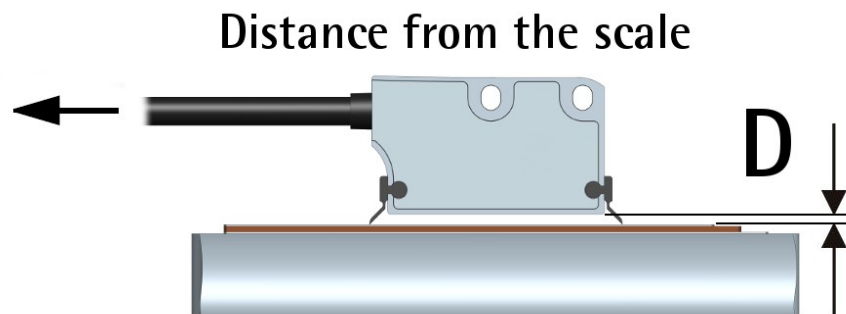
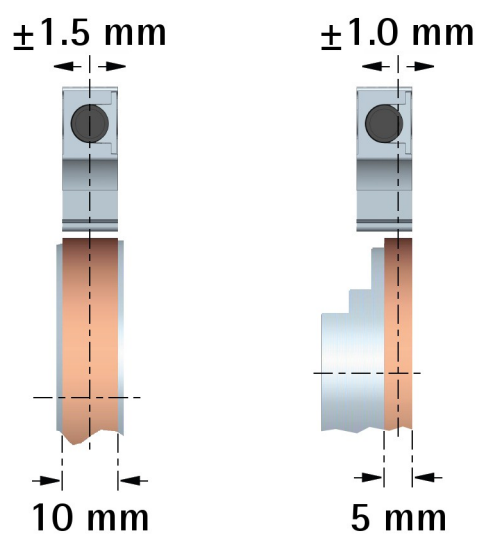
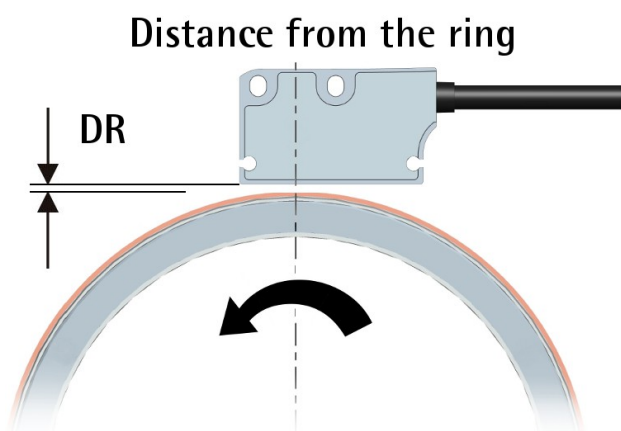

Figure 1 - Encoder / tape mounting gap
Figure 4 - Sensor / ring alignment
Figure 5 - Sensor / ring mounting gap
You can mount the readhead in both directions over the tape. The arrow in Figure 1 indicates the **standard counting direction** (the rising edge of A signal leads the rising edge of B signal) when the sensor moves in the direction indicated by the arrow; further information in the "4.7 Counting direction" section on page 24.
**The distance D (see Figure 1) between the bottom of the encoder and the MTI magnetic scale must be as follows:**
When the sensor is installed on magnetic rings having a 10 mm / 0.4" wide magnetic surface, line up both the sensor and the ring on the central axis. When magnetic rings having a 5 mm / 0.2" wide magnetic surface are used, line up the sensor and the ring as shown in Figure 4; please consider that the incremental sensor is located laterally in the sensing head. With 5 mm rings the mounting direction of the ring makes no difference (but ascertain that the sensor is properly aligned on the correct side!).
To learn about the mounting tolerances refer to the tables below as well as to Figure 4 and Figure 5.
The positive counting direction (the rising edge of A signal leads the rising edge of B signal) is achieved when the sensor moves on the tape according to the arrow shown in Figure 1; or when the ring turns according to the arrow shown in Figure 5. For further information see the "4.7 Counting direction" section on page 24.
### 3.10 Optional cleaning wipers (Figure 1)
The **standard counting direction** (the channel A leads the channel B) is to be intended with sensor moving as shown in Figure 1 in a linear application; with ring turning as indicated by the arrow in Figure 5 in a rotary application.
By default the phase relationship between A and B channels is so that the rising edge of A channel leads the rising edge of B channel when the encoder moves in the direction shown by the arrow in Figure 1 in a linear application; or when the ring turns as indicated by the arrow in Figure 5 in a rotary application (see the "4.6 ABO, /ABO output channels" section on page 22). Thus the counter in the subsequent electronics will get a count up. It cannot be changed.